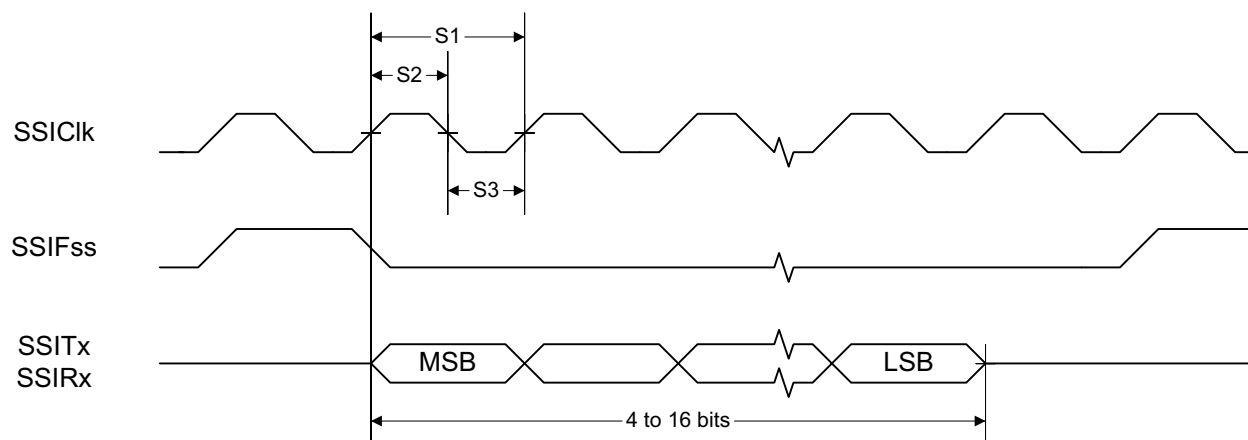

Figure 5-1. SSI Timing for TI Frame Format (FRF = 01), Single Transfer Timing Measurement
(1) For smaller coin cell batteries, with high worst-case end-of-life equivalent source resistance, a 22- $\mu$ F VDD input capacitor (see Section 7.1.1) must be used to ensure compliance with this slew rate.
(2) Applications using RCOSC\_LF as sleep timer must also consider the drift in frequency caused by a change in temperature (see Section 5.14).
(3) T $_A$  = -40°C to +85°C, V $_{DD}$  = 1.7 V to 3.8 V, unless otherwise noted.
(4) T $_c$  = 25°C, V $_{DD}$  = 3.0 V, unless otherwise noted. Device operating as slave. For SSI master operation, see Section 5.24.
(5) Refer to SSI timing diagrams Figure 5-1, Figure 5-2, and Figure 5-3.
(1) Device operating as master. For SSI slave operation, see Section 5.23.
(2) Refer to SSI timing diagrams Figure 5-1, Figure 5-2, and Figure 5-3.